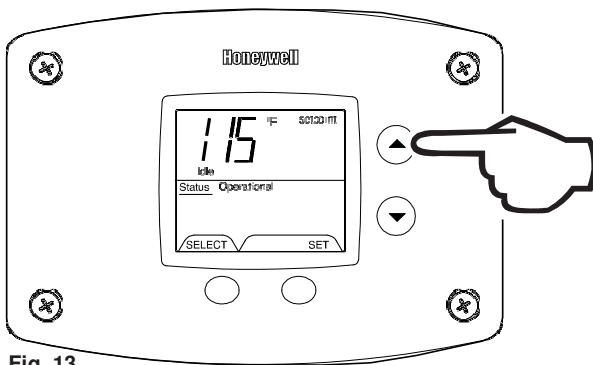

Fig. 13
1. Depress and hold 'Temperature Up' button until desired setpoint temperature appears in the display (Fig. 13).